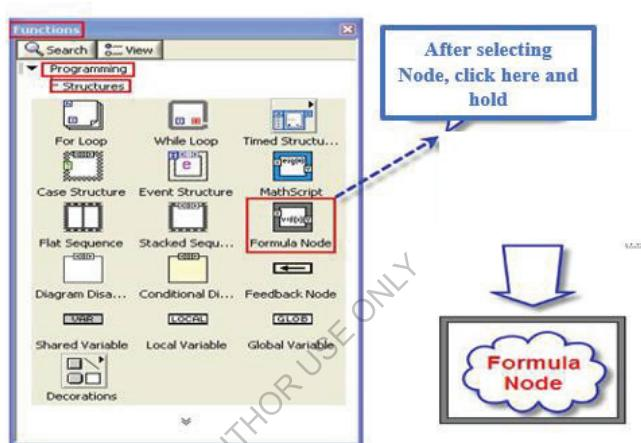

Figure 2.175: Insert Formula Node
**Formula Node** is listed from **Factions Palette >> Programming >> Structures**, as shown in figure 2.175.